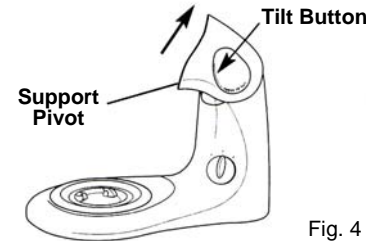

Fig. 4
1. Press the tilt button, located on the top of the support pivot. While the button is depressed, ease the support pivot back. (Fig. 4)